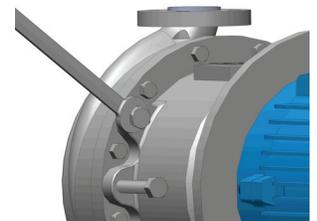

figure 10
- ⚠ WARNING:** Magnetic force hazard. This pump should only be disassembled and assembled using the recommended procedures. The magnetic attraction is powerful enough to rapidly pull the motor end and the wet end together. ALWAYS use the jackscrews (item 14) to assemble/disassemble the pump. Do not place fingers between the mating surfaces of the motor and wet ends to avoid injuries. Keep the drive magnet and impeller assembly away from metal chips or particles.
1. Stop the pump, lock out the motor starter, close all the valves that are connected to the pump, and drain/decontaminate the pump. The ULTRAChem is supplied with a casing drain to help drain and decontaminate the pump. If the drain flange has been removed to drain/decontaminate the pump, reinstall the flange (item 11) and use a new gasket (item 11A). Torque the two flange bolts ( $\frac{1}{4}$ " (item 11B) to 6.5 ft-lbs (8.5 N-m).
3. Remove the mounting bolts that attach the motor to the base, if any. Using a  $\frac{3}{4}$ " socket, remove the (4)  $\frac{1}{2}$ " bolts (item 15) that secure the motor adapter (item 9) to the clamp ring (item 7). See figure 10.